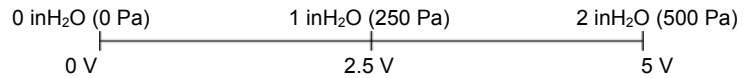

Figure 42. Correspondence between an analog input signal and static pressure.
Electrical signals convey information to and from the controllers. Each controller **analog input** receives a low-level electrical signal (in volts or milliamperes) that corresponds to a real physical value. For example, the static pressure (SP) signal of the RTU controller is a 0-5 V input. Figure 42 shows that 0 V corresponds to 0 inH₂O (0 Pa) and 5 V corresponds to 2 inH₂O (500 Pa). If 2.5 V are received, this means a pressure of 1 inH₂O (250 Pa).